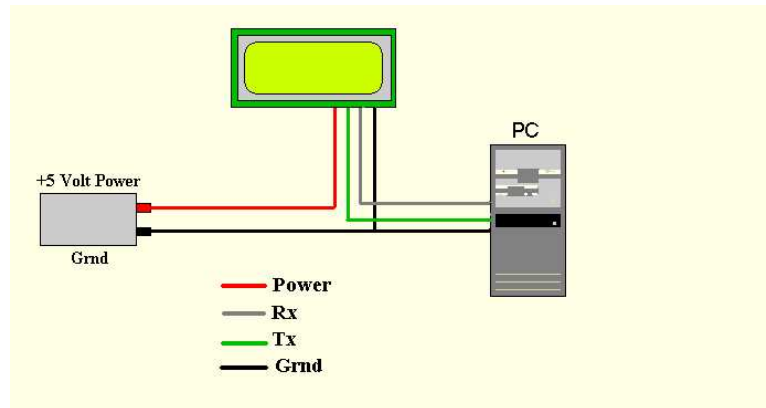

Figure 1: Connections for Testing
1. Refer to Figure 1 for the following steps.